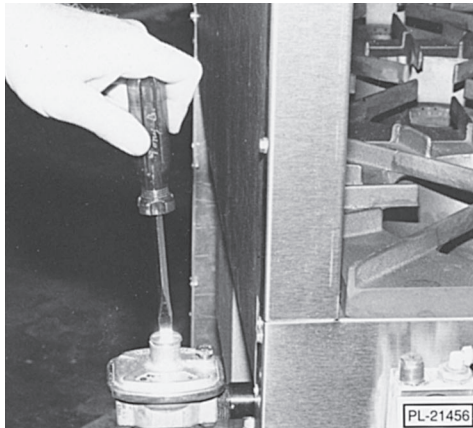

Fig. 26
3. If reading is incorrect and the proper line pressure has been verified, then the regulator must be adjusted. Using a standard flat blade screwdriver, remove the regulator adjustment cap (Figs. 26 & 27).